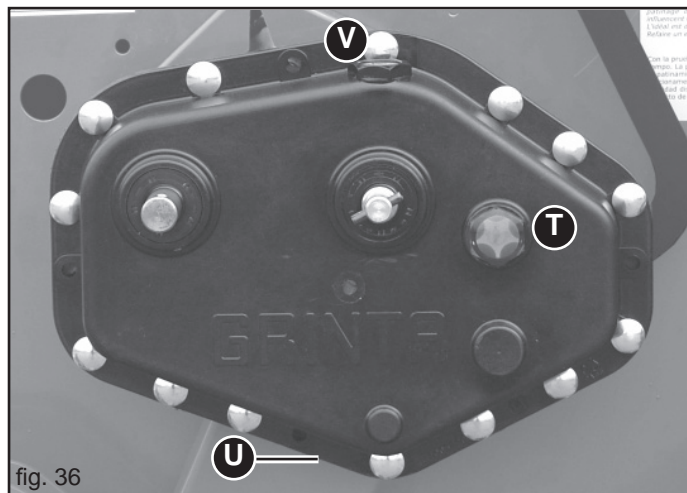

fig. 36
- Check the oil level in the gearbox and top up to level (T, Fig. 36) whenever necessary using the same type of oil (ACER 22) whenever possible.
- oil drainage plug (U, Fig. 36);
- oil filling plug (V, Fig. 36).